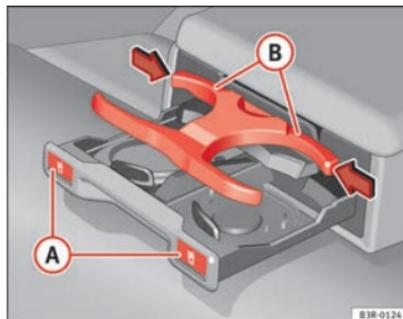

Fig. 120 Drink holder in the rear armrest
- Press the symbol  (A) ⇒ Fig. 120.